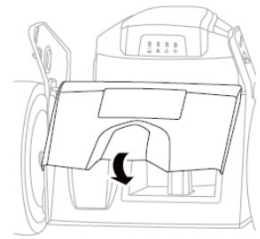

Fig.8D
- 3) Lower the rear cover again. (Fig.8D)